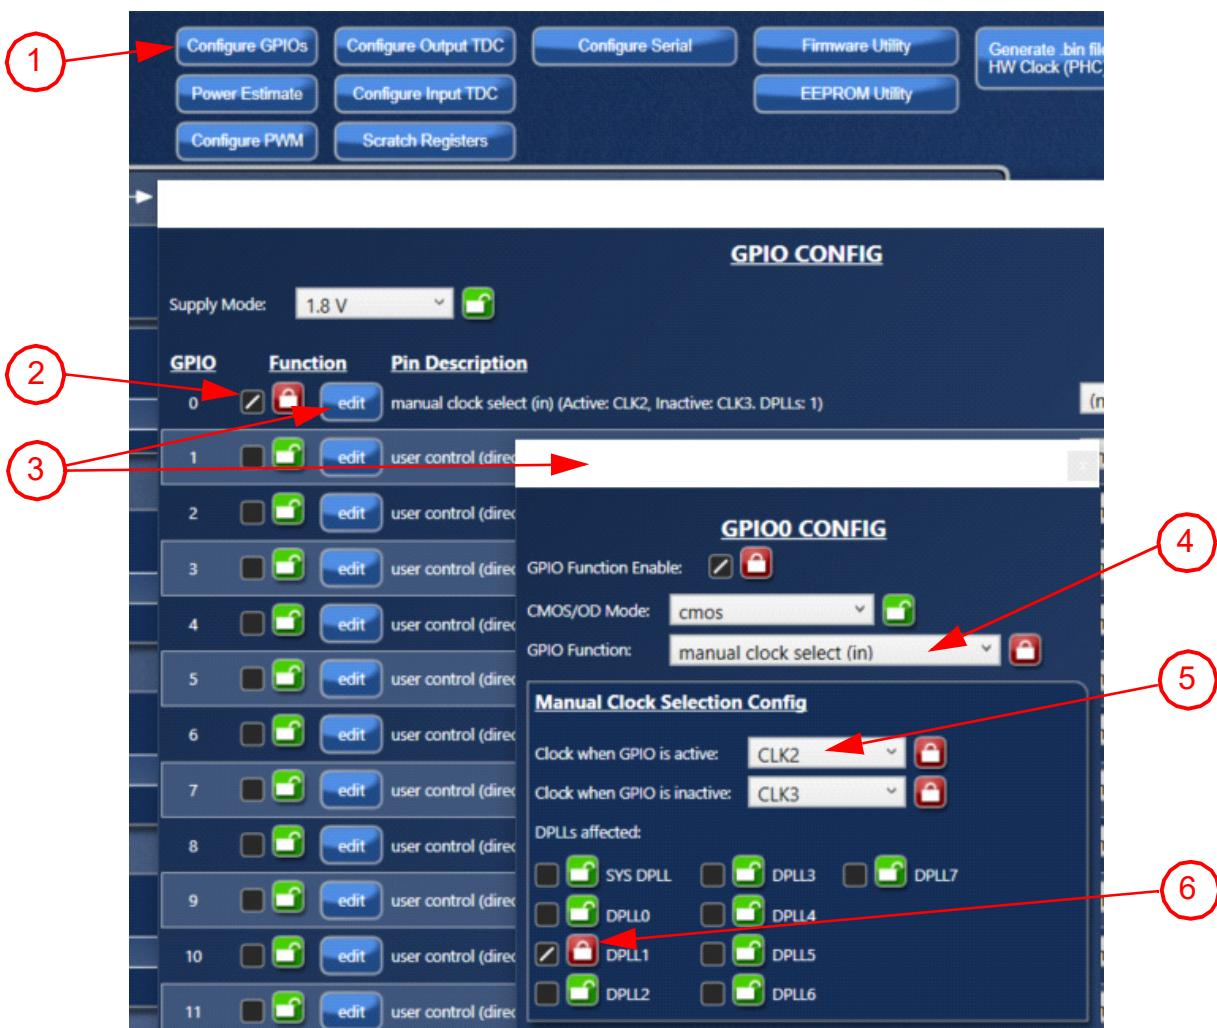

Figure 18. GPIO Configuration Window
- How to set up GPIO0 to control the clock selection for DPLL1 (see Figure 18):